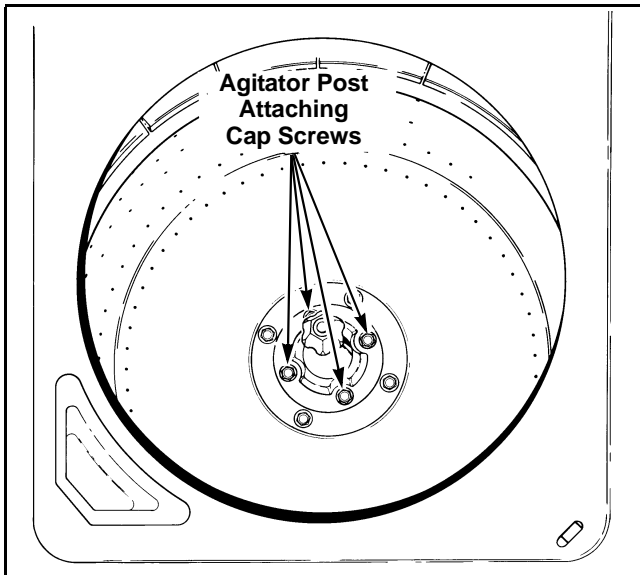

Figure 18
- b. Remove four cap screws holding agitator post assembly to washtub hub, then lift assembly out of washtub. Refer to *Figure 18*.